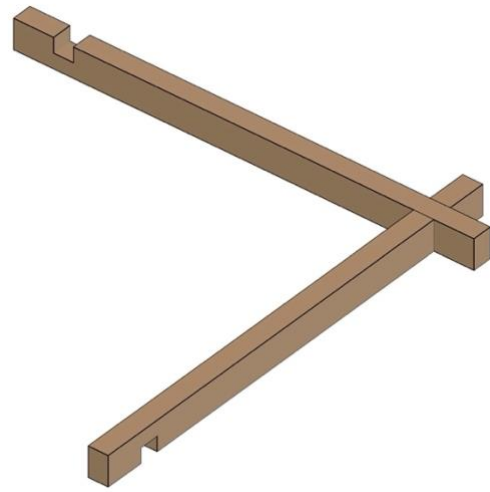

Fig. 54
- Fig. 54 shows the completed process.